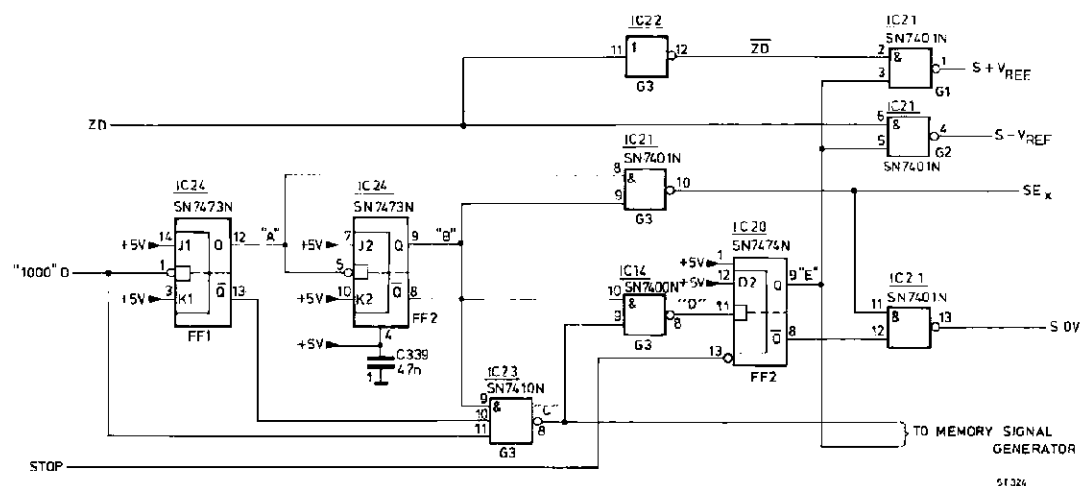

Fig. 13. Integrator input control circuit
1. Integrator input control circuit (Fig. 13)